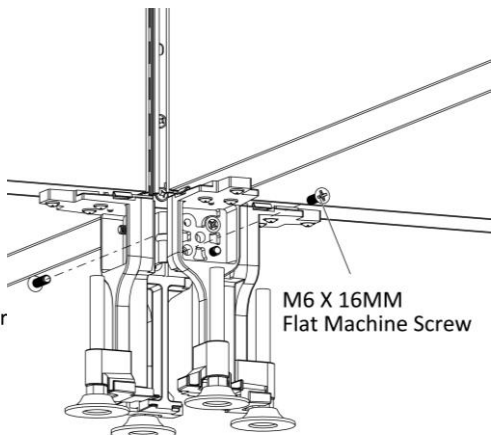

Figure 9
- 15. Secure the base with two M6 X 16MM Flat Machine Screws, (Figure 9).